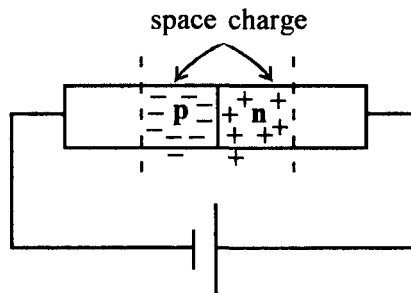

Fig 4.31 Space charge in p-n junction.
increases, the space charge region also increases, or the region of immobile uncovered charges increases (i.e., negative region on p-side and positive region on n-side increases as shown in Fig. 4.31). The conductivity of this region is usually zero or very small. Now in a FET, between gate and source, a reverse bias is applied. Therefore the channel width is controlled by the reverse bias applied between gate and source. Space charge region exists near the gate region on both sides. The space between them is the channel. If the reverse bias is increased, the channel width decreases. Therefore, for a fixed drain to source voltage the drain current will be a function of the reverse biasing voltage across the junction. Drain is at positive potential (for n-type FET). Therefore, electrons tend to move towards drain from the source (1) Because, source is at negative potential, they tend to move towards the drain. But because of the reverse bias applied to the gate, there is depletion region or negative charge region near the gate which restricts the number of electrons reaching the drain. Therefore the drain current also depends upon the reverse bias voltage across the gate junction. The term field effect is used to describe this device because the mechanism of current control is the effect of the extensions, with increase reverse bias of the field associated with region of uncovered charges